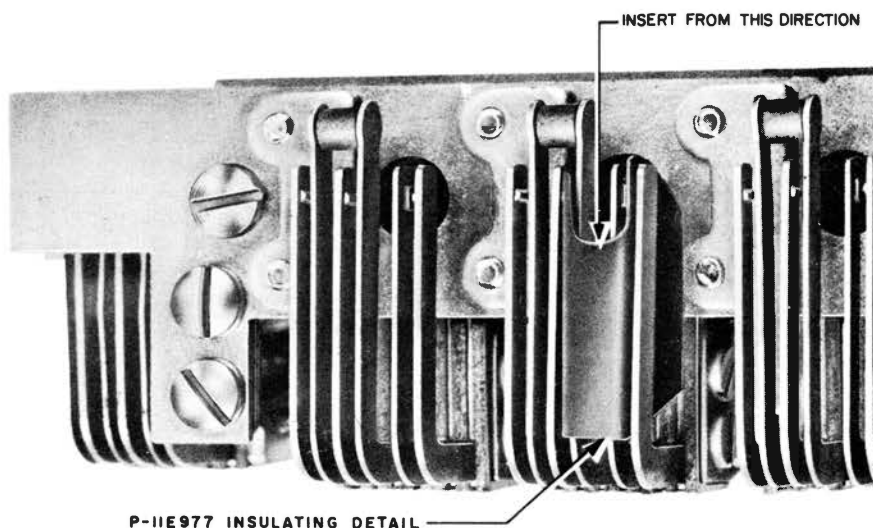

Fig. 3 — Position of P-11E977 Insulating Detail When Converting a button on the 598-Type Key from Pickup to Signaling
3.04 The 634-type sets are furnished with a package of six P-11E977 insulators for use when converting line pickup buttons for signaling service options. The 635-type sets are furnished with two packages. (See Fig. 3.)
4.02 When converting a line pickup key to non-locking signaling, remove P-10E837 screw from plunger shaft and slide a P-11E977 insulating detail squared end first, between the contacts of the spring pile-up adjacent to the key plunger (Fig. 3). The insulating details are furnished with the set.